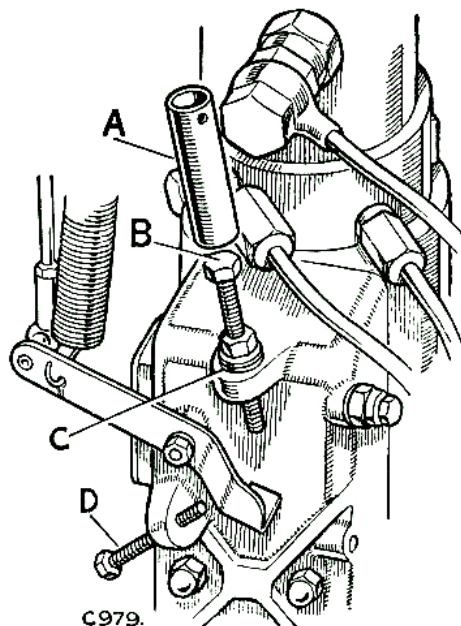

Fig. M-29—Distributor pump control screws.
Finally the maximum output control screw should be wired up and sealed as shown at Fig. M-29.
- (c) Remove adjusting screw collar. See Fig. M-29.